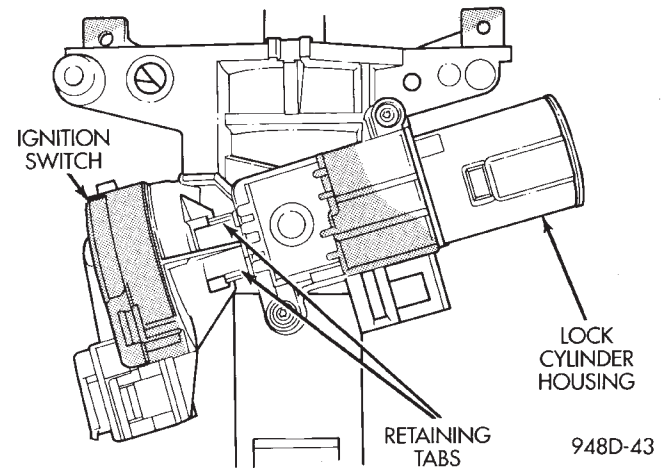

Fig. 50 Ignition Switch—Viewed From Below Column
The ignition switch attaches to the lock cylinder housing on the end opposite the lock cylinder (Fig. 50). For ignition switch terminal and circuit identification, refer to Group 8W, Wiring Diagrams.
(15) Depress retaining tabs (Fig. 50) and pull ignition switch from steering column.